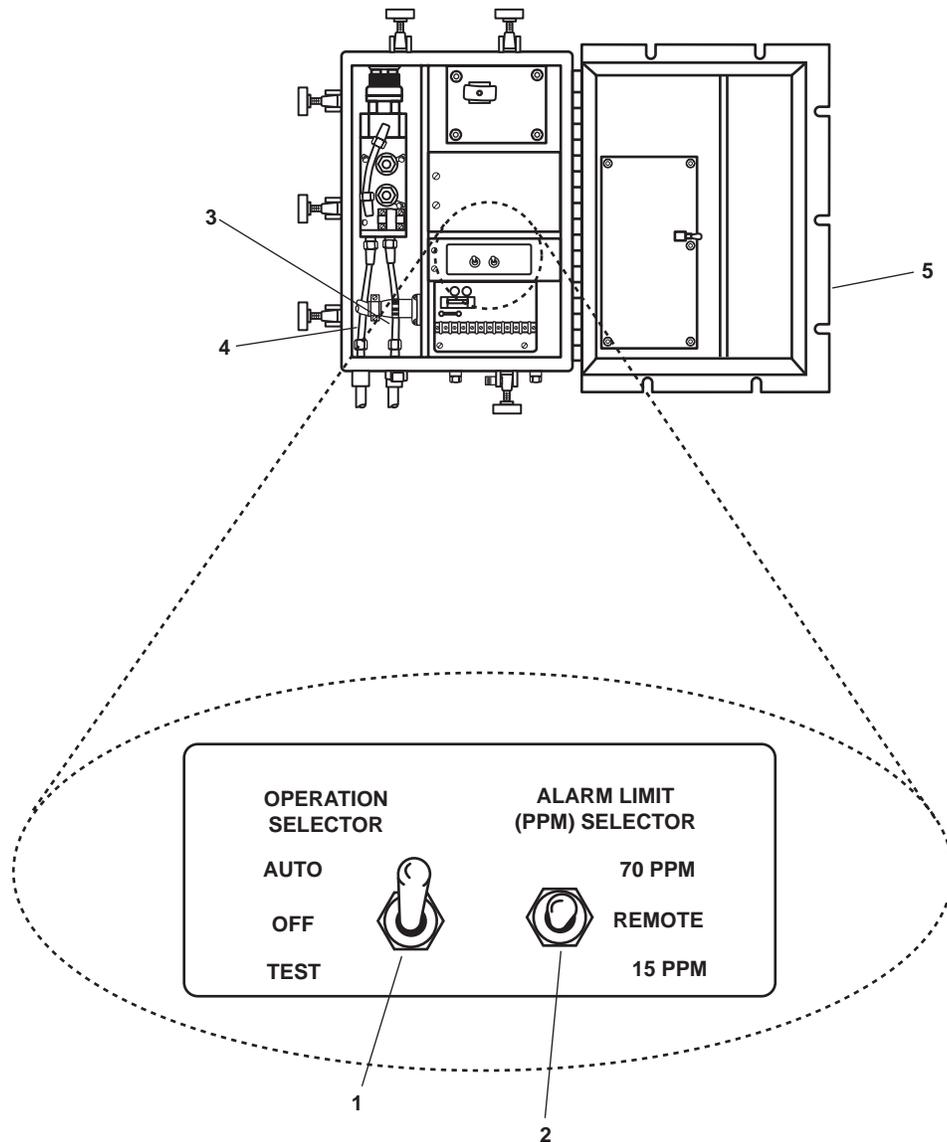
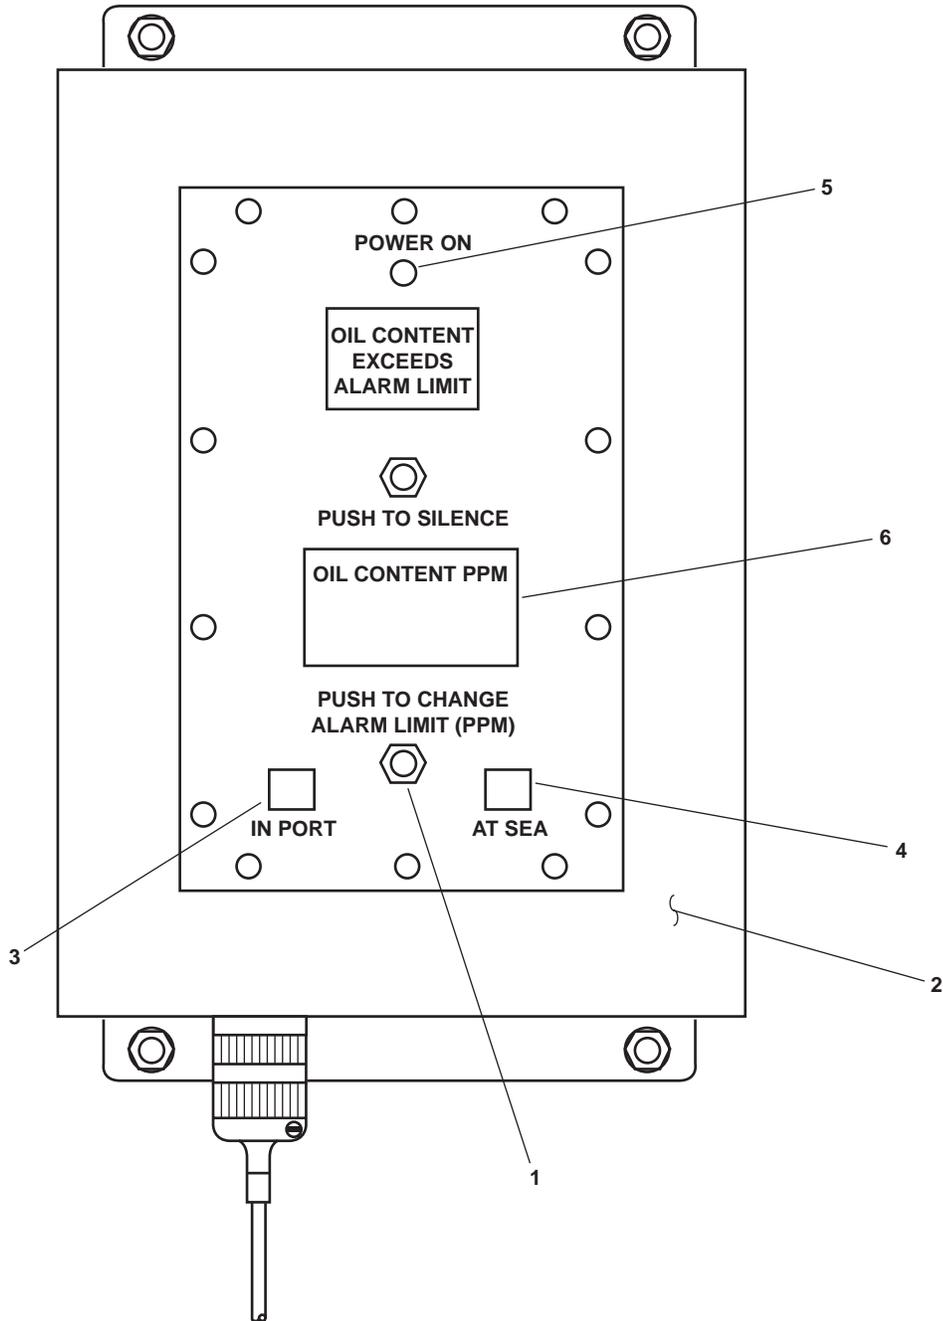

Figure 4. Sampling/Sensor Assembly Interior
Figure 6. Remote Indicator (Alarm) Assembly
5. Set the OCM OPERATION SELECTOR Switch A1S1 (figure 4, item 1) to the OFF position.
7. Position the OPERATION SELECTOR Switch A1S1 (figure 4, item 1) to AUTO.
8. If the Remote Indicator Assembly (figure 6) is not used, set the ALARM LIMIT (PPM) SELECTOR Switch A1S2 (figure 4, item 2) to the 15 PPM position for OWS operation within 12 nautical miles of land or the 70 PPM position for OWS operation outside 12 nautical miles of land. To utilize the Remote Indicator Assembly, set the ALARM LIMIT (PPM) SELECTOR switch A1S2 to the REMOTE position.
10. Verify that the OCM has fluid flowing through the OCM sample inlet tubing (figure 4, item 3) and is discharging fluid through the OCM sample discharge tubing (figure 4, item 4). If the OCM does not have fluid flow within 2 minutes, turn the OWS control panel switch (figure 1, item 2) to OFF and notify the maintenance supervisor. If the OCM does have fluid flow within 2 minutes continue with the procedure.
11. Close and secure the sampling/sensor assembly door (figure 4, item 5).
12. If the Remote Indicator was selected, The PUSH TO CHANGE ALARM LIMIT (PPM) pushbutton switch A2S1 (figure 6, item 1) on the remote indicator (alarm) assembly (figure 6, item 2) must be set to the proper PPM. Select the IN PORT (15 PPM) or AT SEA (70 PPM) alarm limit by pushing the PUSH TO CHANGE ALARM LIMIT (PPM) pushbutton switch A2S1 until the IN PORT indicator (figure 6, item 3) or the AT SEA indicator (figure 6, item 4) illuminates.
- g. The POWER ON indicator A2DS1 (figure 6, item 5) is illuminated on the Remote Indicator Assembly (figure 6, item 2) if the ALARM LIMIT (PPM) SELECTOR switch A1S2 (figure 4, item 2) is in the REMOTE position.
- h. The appropriate alarm limit indicator (figure 6, items 3 and 4) is illuminated on the Remote Indicator Assembly (figure 6, item 2) to correspond with the alarm limit selected if the ALARM LIMIT (PPM) SELECTOR switch A1S2 (figure 4, item 2) is in the REMOTE position.
- i. The OIL CONTENT PPM (figure 6, item 6) is displayed on the Remote Indicator Assembly (figure 6, item 2) if the ALARM LIMIT (PPM) SELECTOR switch A1S2 (figure 4, item 2) is in the REMOTE position.